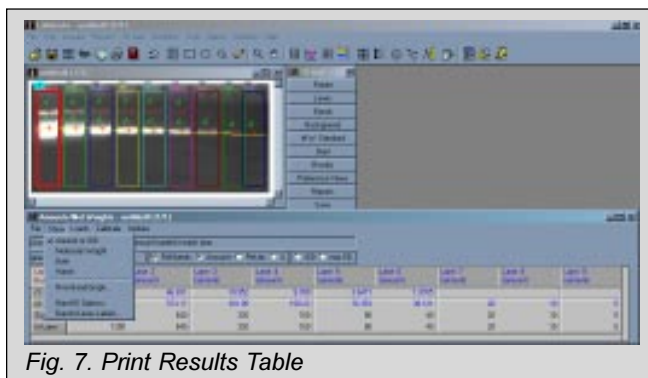

Fig. 7. Print Results Table
- Click on the Show menu of the results table (Fig. 7) check the "Amount or IOD" option; **print** the results table at this point for later use.